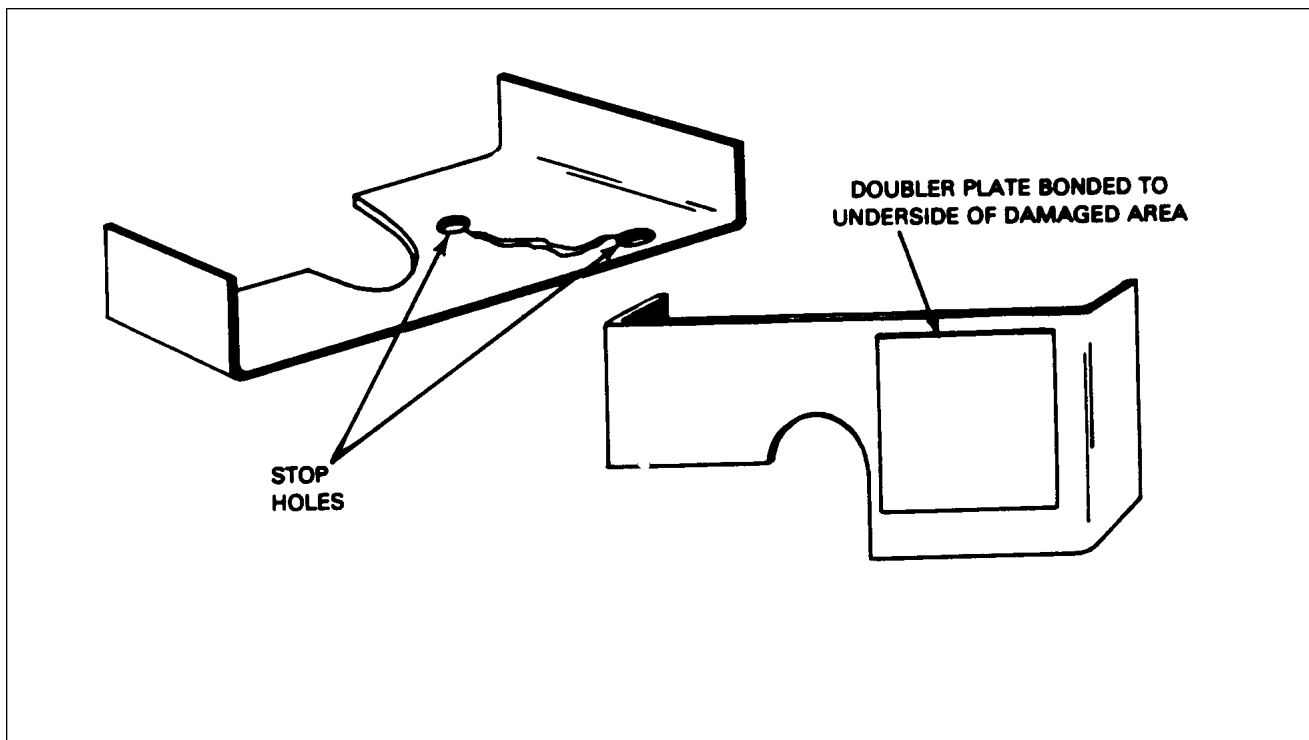

Figure 51-7. Repairing of Cracks
4. Cracks: (Refer to Figure 51-7)